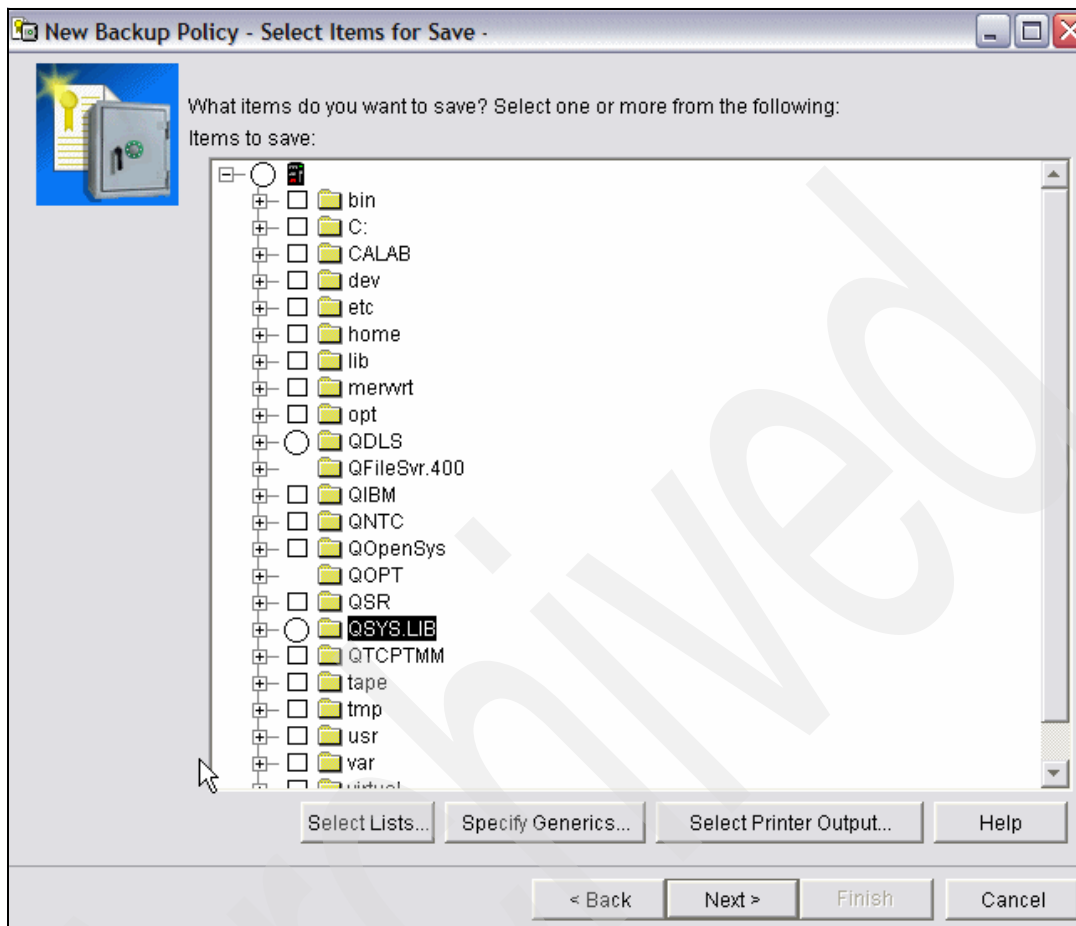

Figure 7-21 Select items for save
8. You are taken back to the first selection window, shown in Figure 7-21 on page 352, to add more objects to save. You are finished, so click **Next**.